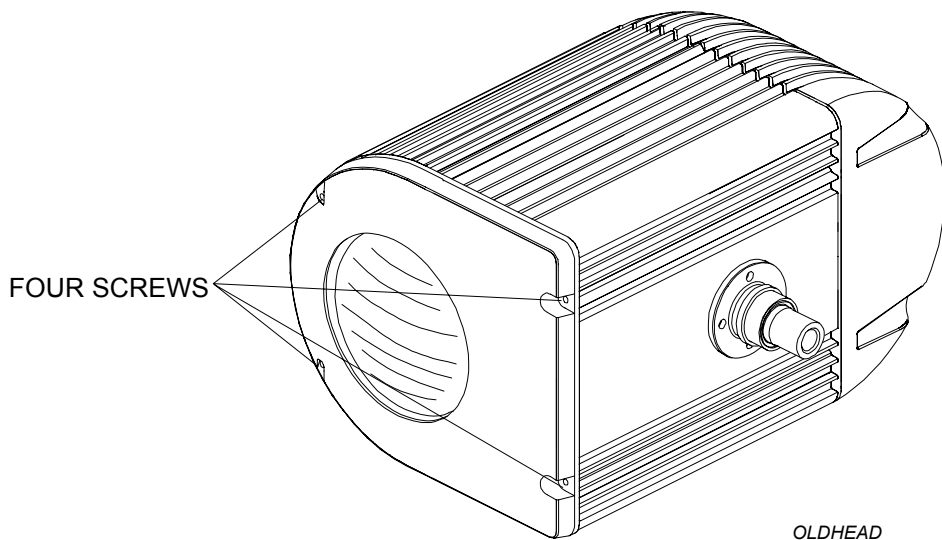

Figure 4.1 - Early Production Head Assembly
6. Using #2 Phillips screwdriver, loosen four outer screws and remove head enclosure front cover (Figure 4.1).